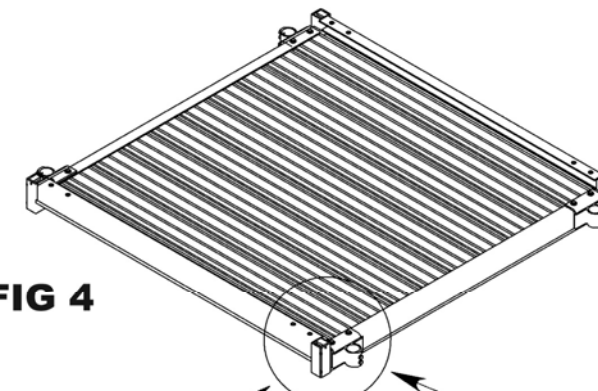

FIG 4
- iii) Position the platform saddle bracket over the threaded inserts located on each outside corner of the platform (FIG. 4).